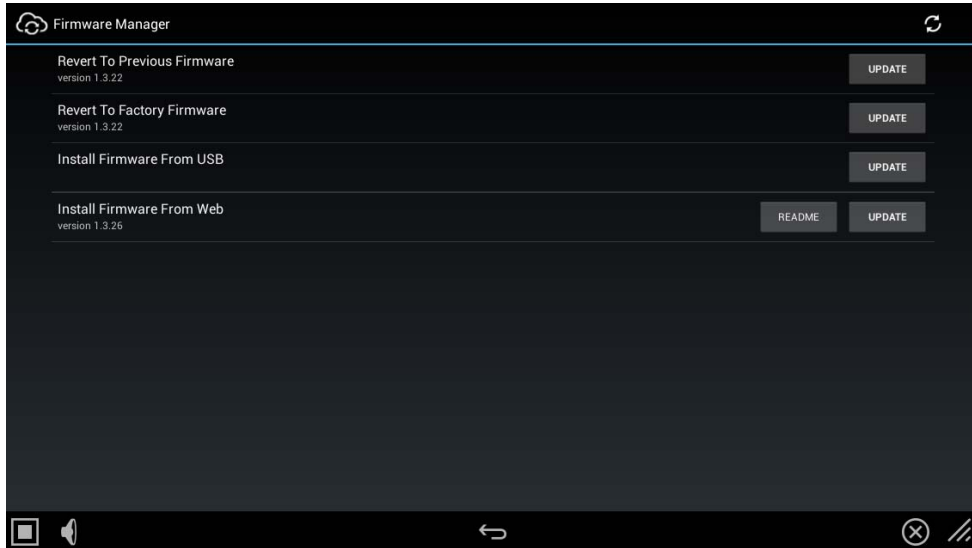

FIG. 116 Firmware Manager window
Select **Firmware Manager** under UPDATE MANAGER in the *Reset and Update* page to access the Firmware Manager page (FIG. 116):
1. From the *Firmware Manager* window (FIG. 116), select *Revert to Previous Firmware*. If no previous version is available, this field is disabled
1. From the *Firmware Manager* window (FIG. 116 on page 69), select *Revert to Factory Firmware*.
3. From the *Firmware Manager* window (FIG. 116 on page 69), select *Install Firmware from USB* to open the *KIT File Browser* window (FIG. 119).
If any firmware updates are available for the panel, the *Install Firmware From Web* option is presented on the *Firmware Manager* page (see FIG. 116 on page 69). Note that if High Security mode is set on the panel, web updates are not permitted. See the *SYSTEM - Security* section on page 60 for details on security modes.
1. From the *Firmware Manager* window (FIG. 116 on page 69), select *Install Firmware from Web*.